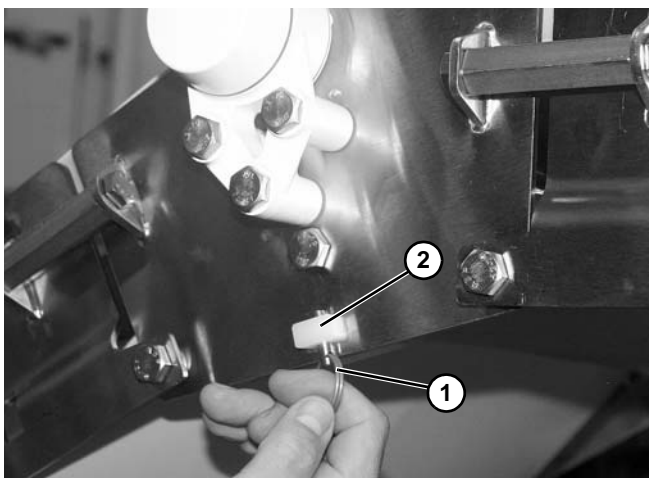

Figure 25
- Upper Knuckle (LPZ Conveyors) (If Equipped): Remove pull pin (**Figure 25, item 1**) securing roller guard (**Figure 25, item 2**) on each side of conveyor on upper knuckle plate. Place roller guard in COP tank.